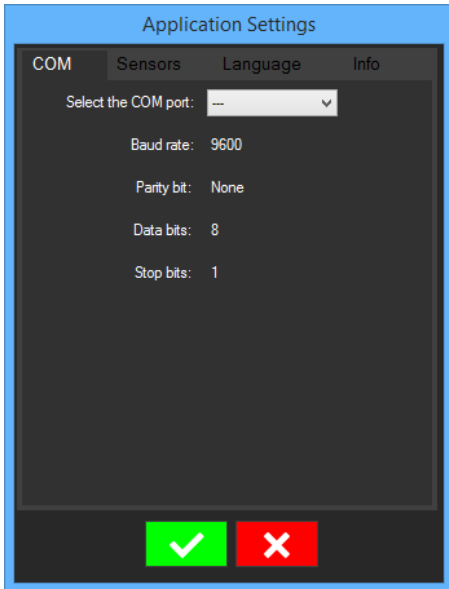

Figure 6
3. Click on the tab **COM** (Figure 6) to select the serial port connected to the monitoring gas concentration system.